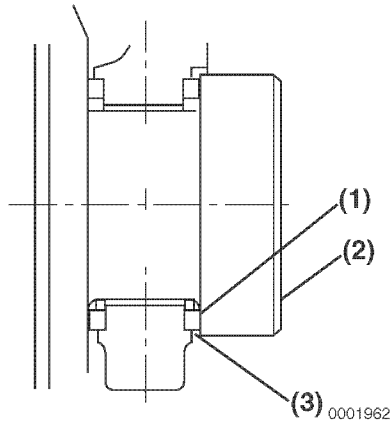

Figure 6-56
- **Method B:** Use a feeler gauge to measure the clearance (**Figure 6-56, (3)**) between the thrust bearing (**Figure 6-56, (1)**) and crankshaft (**Figure 6-56, (2)**). Record the measurement. See *Thrust Bearing* on page 6-9 for the service limit.